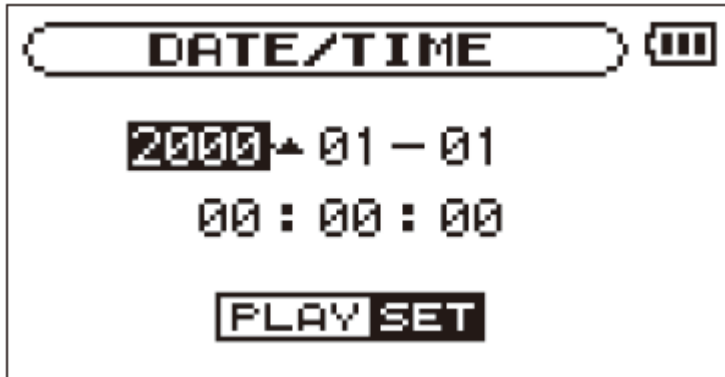
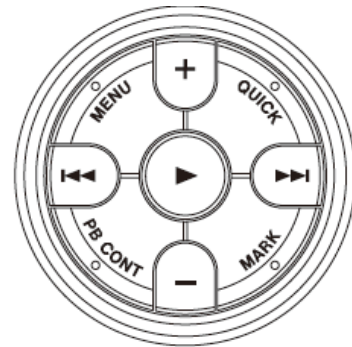

Figure 2
Figure 3
3. Once the recorder is on, a prompt appears to set the date and time (Figure 2). Use the left and right arrow buttons to scroll through the 6 fields (Year-Month-Day-Hour-Minute-Second), and change each value by pressing the +/- buttons (Figure 3). Once the date and time have been set, press the Play button (Figure 3).